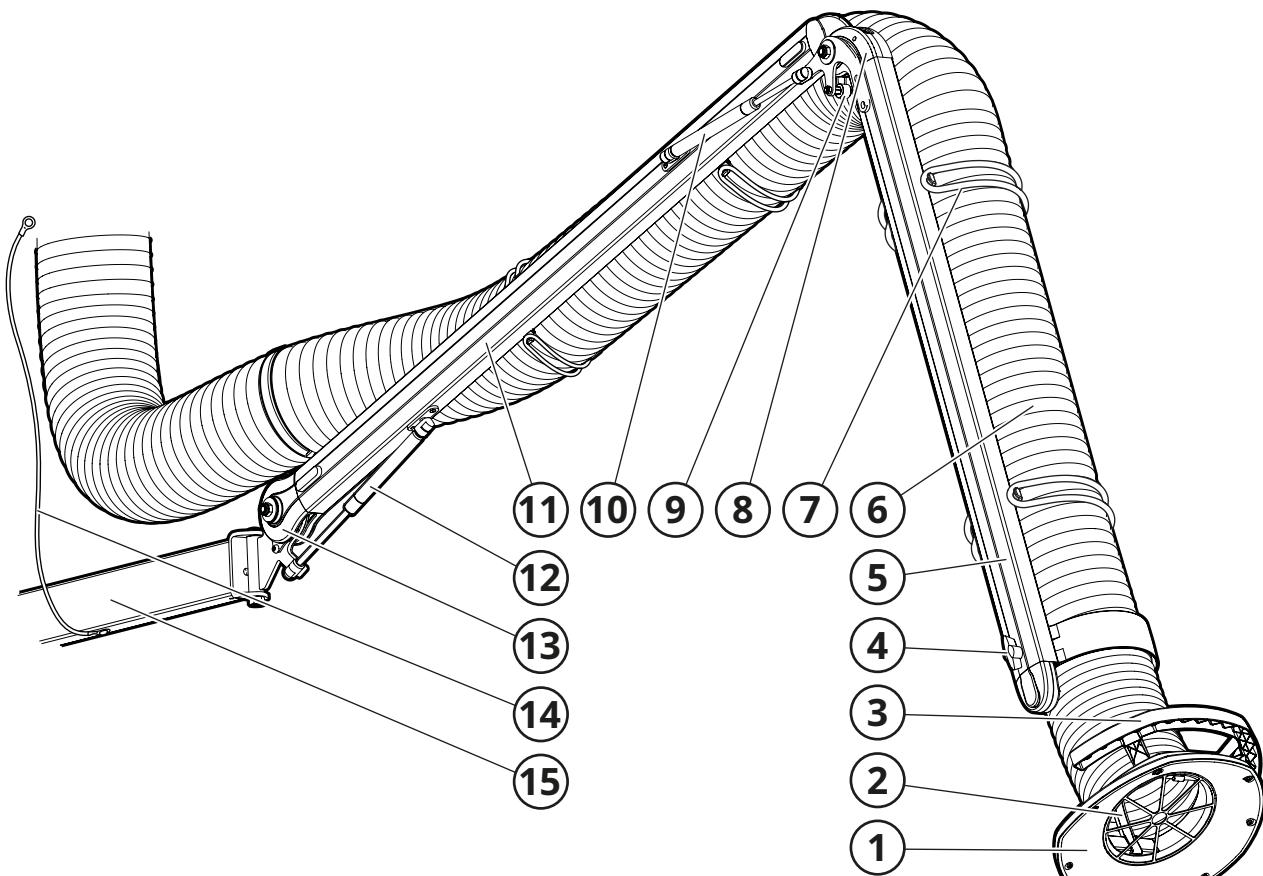

Fig. 2
See **Fig. 2**.
The extraction arm is mounted on a wall bracket (15, **Fig. 2**) as standard and has externally attached support arms (5, 11). The joints (8, 13) are fitted with gas springs (10, 12) to balance the weight of the arm. The extraction arm's friction is regulated at each joint. The hood (1) is designed for maximum suction efficiency and is ideal for gas and dust extraction, and is fitted with a handle (3) for maneuvering. A damper (4) at the fitting of the hood regulates the air flow. The hood joint (2) can be bent 180°+180°. The hose (6) is mounted on the arm via the hose fixation (7).